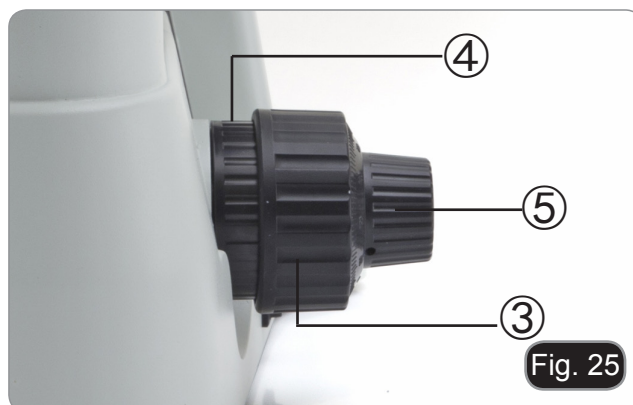

Fig. 25
- **The coarse focusing knob ④ is pre adjusted to a tight tension upon leaving the factory.**
If the nosepiece drops down by itself, or the specimen defocuses while adjusting the fine focus knob ⑤, the coarse focus knob is too loose. Turning the tension adjustment collar ④ in clockwise direction tightens the coarse focus tension ③. Rotate in the opposite direction to decrease the tension. (Fig. 25)